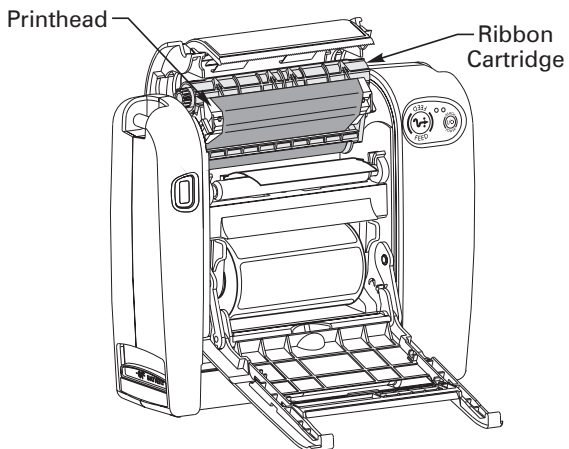

Figure 15
4. Slide the ribbon cartridge past the printhead (refer to Figure 15). It will automatically move into the correct operating position.